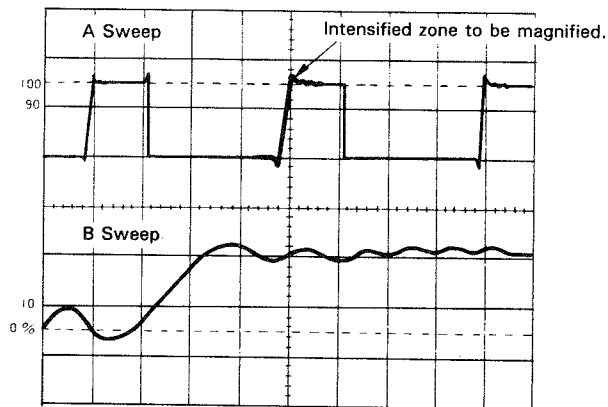

Figure 9 ALT Sweep Operation
- 2) Set the AFTER D/B TRIG'D control to AFTER. D. Set the H. MODE control to ALT. The waveform portion to be magnified is intensity-modulated and displayed bright. In Figure 9, the upper trace line shows the non-magnified waveform, and the lower trace line shows the magnified waveform.